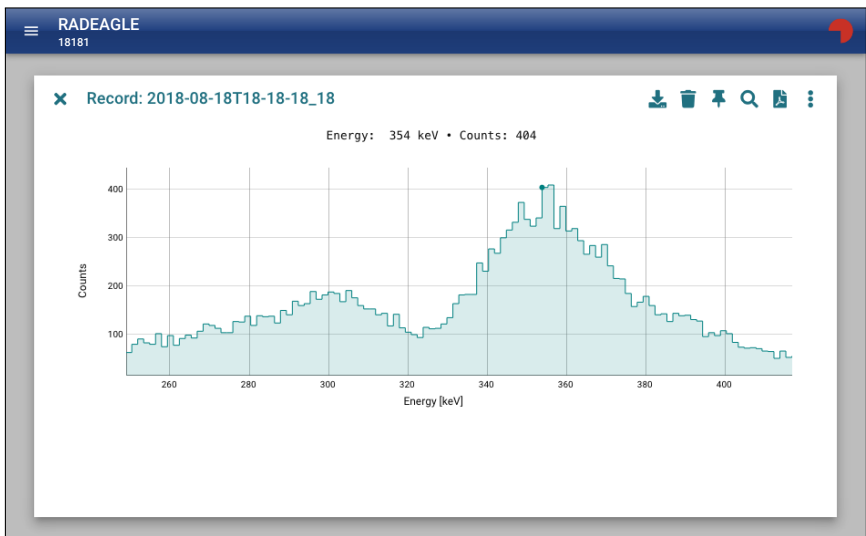

Figure 106: Enlarged part of the spectrum
3. Release the mouse button. The enlarged region shows up (Fig. 106, p.91)